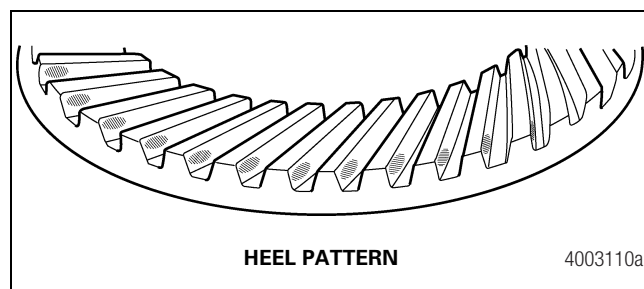

Figure 4.29
- **If the contact is too much toward the heel or large outside end of the gear:** Decrease the gear backlash. Make the differential bearing shim thicker to move the gear toward the pinion. Figure 4.29.